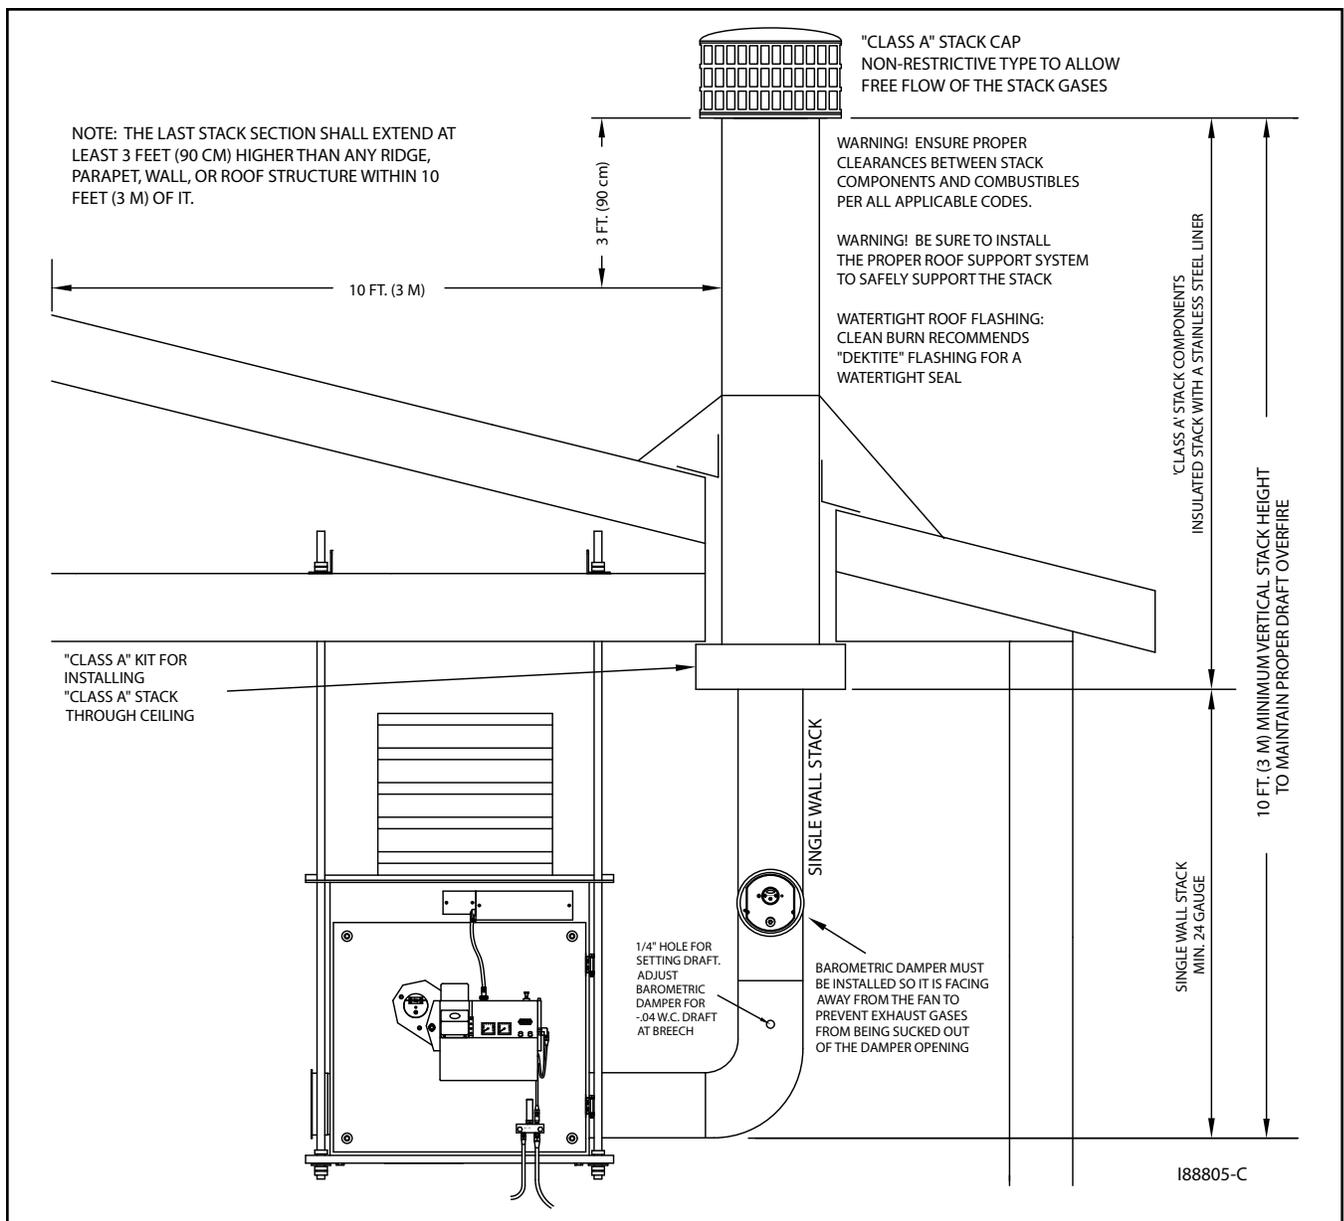
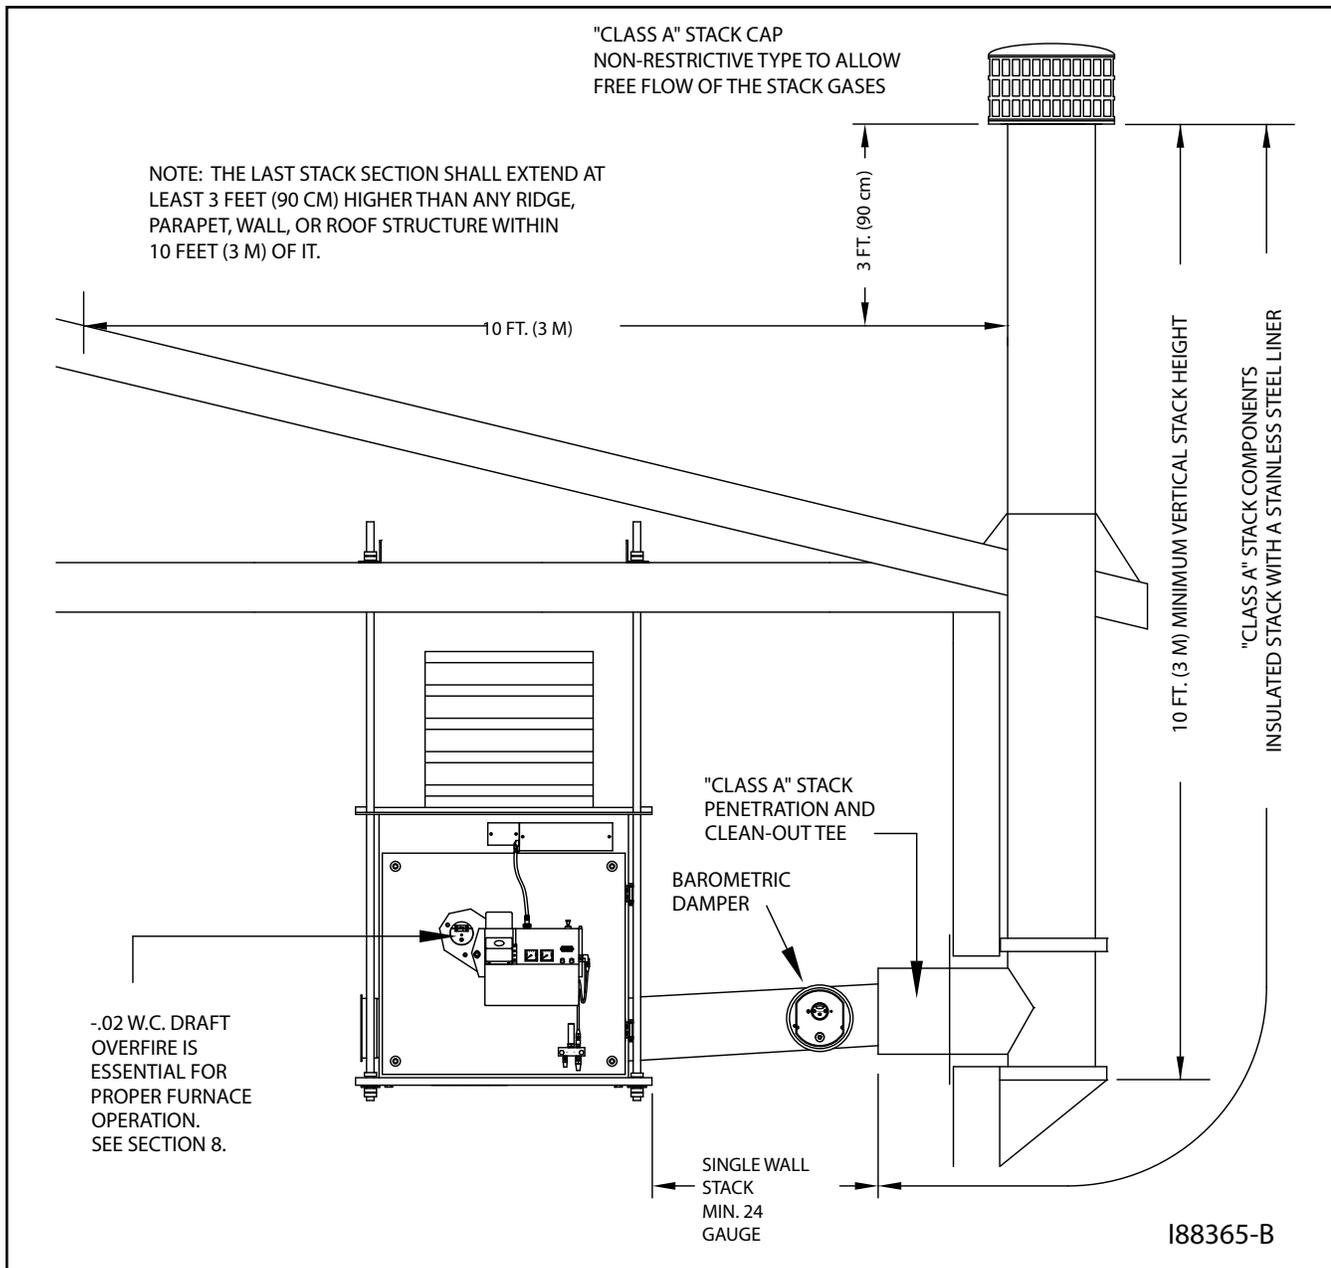

Figure 4L - Installation of "Class A" Stack Through Roof/Ceiling
Figure 4M - Installation of "Class A" Stack Through Sidewall
- (1) "Class A" stack through the ceiling of the building (refer to **Figure 4L**)
- (2) "Class A" stack through the sidewall and up the side of the building (refer to **Figure 4M**)
Figures 4L and 4M illustrate recommended stack designs. Choose the stack design which is appropriate for your furnace installation and review all specifications provided in the corresponding drawing. When designing your stack, adhere to the following specifications:
1. Refer to the stack installation drawing, Figure 4L. Install a single wall tee (min. 24 gauge) after the 90-degree elbow in the straight vertical stack section within three to five feet of the furnace breach. For horizontal stack runs (as shown in Figure 4M), install the tee after the first straight section of pipe.
1. Refer to Figure 4L/4M as needed.
1. Refer to Figure 4L/4M as needed. Your stack cap should be classified as: "Class A" non-restrictive, all-fuel type.